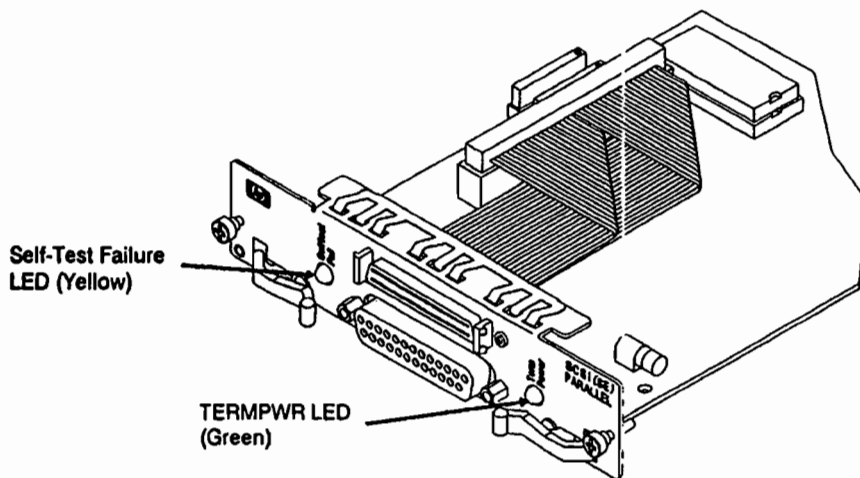

Figure 2-2. Location of LEDs
- Self-Test failure LED (see figure 2-2)
- TERMPWR LED (see figure 2-2)